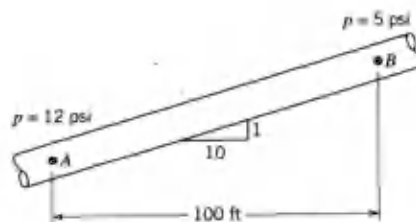

FIGURE P5.17R
5.17R (Energy equation) Water flows steadily from one location to another in the inclined pipe shown in Fig. P5.17R. At one section, the static pressure is 12 psi. At the other section, the static pressure is 5 psi. Which way is the water flowing? Explain.